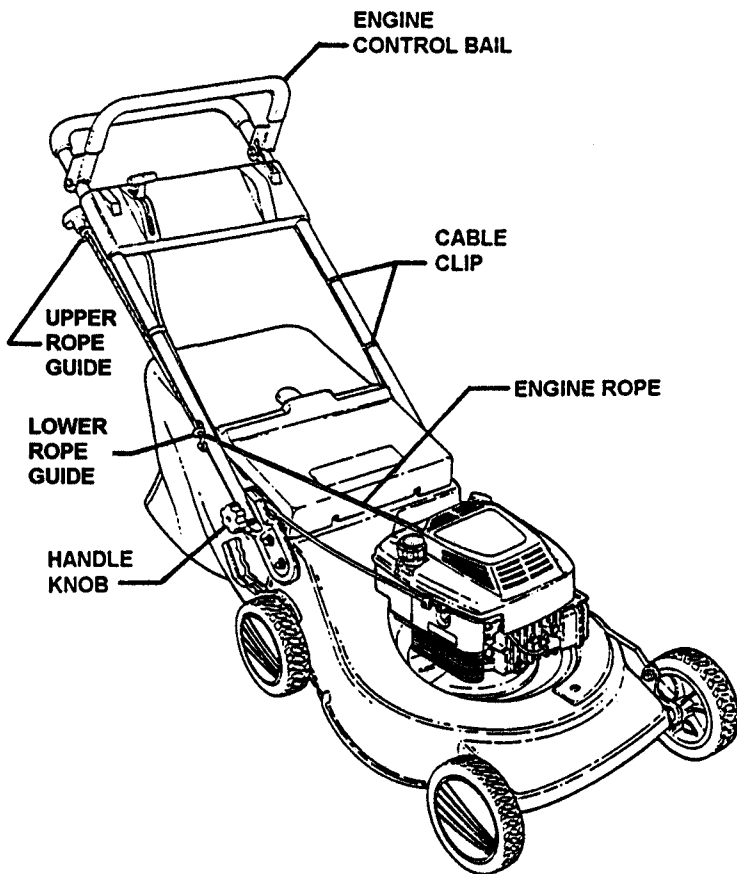

FIGURE 1
STEP 1: Remove unit from carton and unfold handle. Do this carefully to prevent cables from hanging up or becoming kinked. It will be necessary to remove cardboard isolators between the handles and knobs. Tighten Handle Knobs securely. See Figure 1.
STEP 2: Holding engine control bail down and at the same time, pull engine rope handle and wrap pull cord into rope guides that are located on handles. See Figure 1.